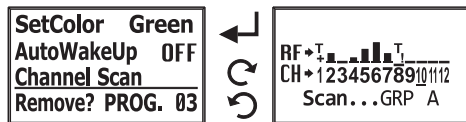

Fig. 26
(O) Channel Scan function, Fig. 26:
- (1) Channel Scan function works for the current group.
- (2) Press Channel Scan button to scan the environment for RF field strength to select the best available channel. Turn the knob to a new channel and press to store on the primary screen.